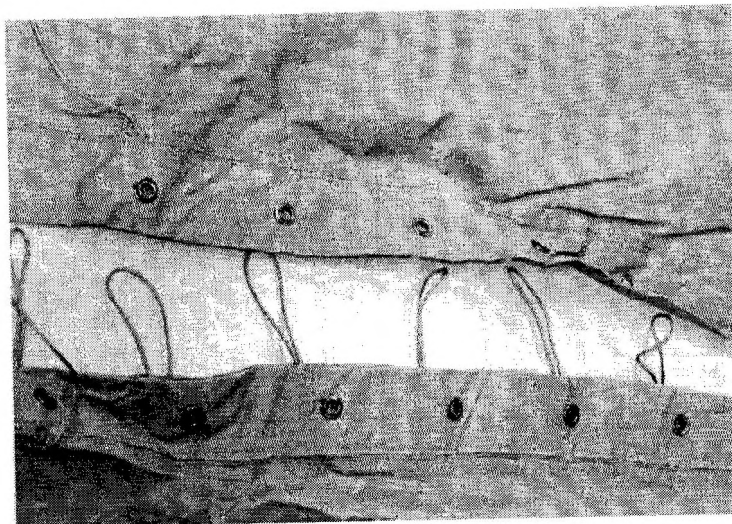
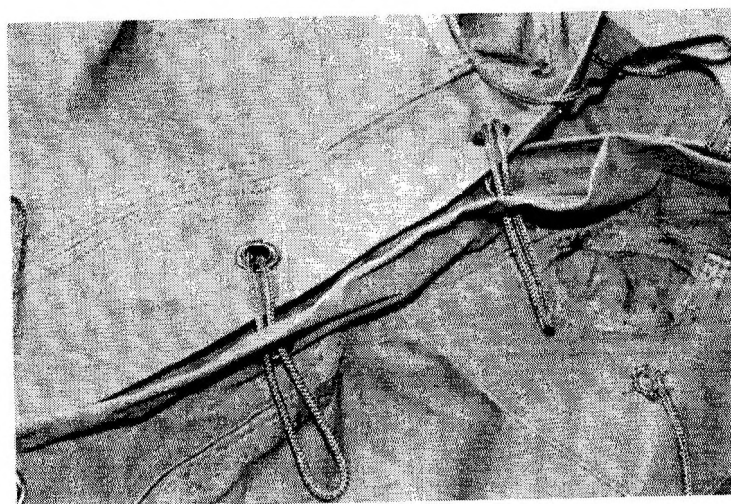
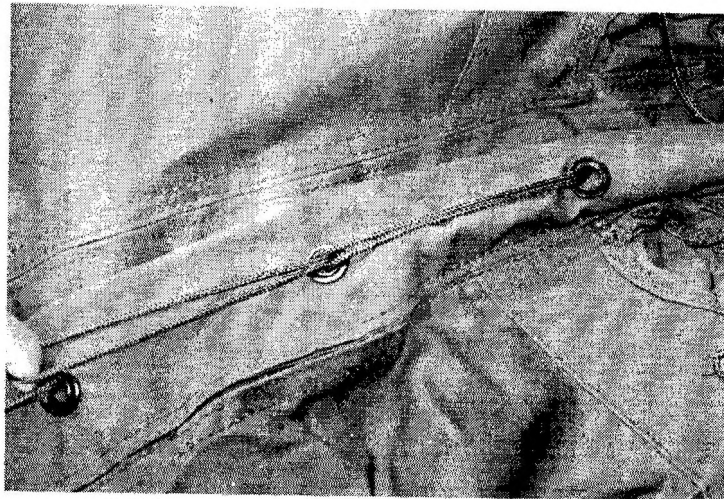
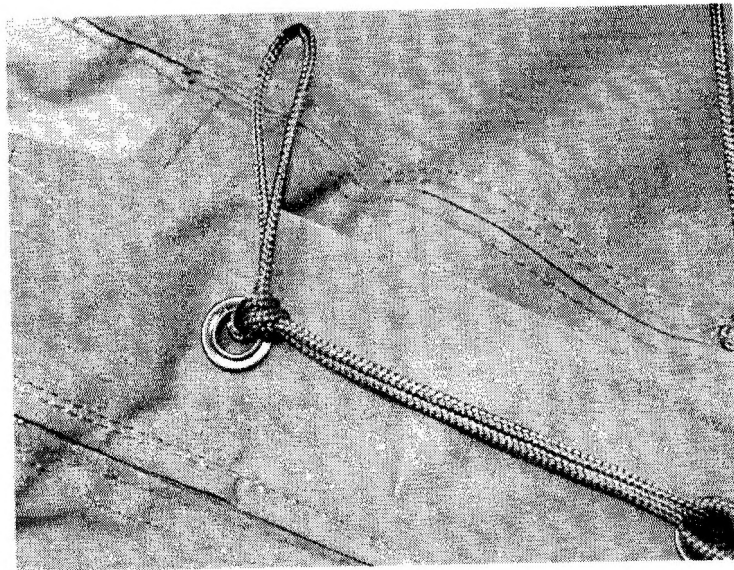

Figure 27: Lacing cover sections (1)
Figure 28: Lacing cover sections (2)
Figure 30: Lacing cover sections (4)
Figure 33: Lacing cover sections (7)
21. With the MK4 shelter system there are options for assembly. The tent can be erected using keder rails or the roof and wall sections can be pre-laced together as detailed in Fig 27 to 34. If the tent is being erected using a combination of MK 4 and earlier cotton canvas panels then you can utilise a combination of the two or just dutch lacing.
39. The dutch lacing is installed by aligning the eyelets as detailed in Fig 27. Then passing the loops through the eyelets Fig 28. The top loop is them looped over the next loop down Fig 30. Finally, the bottom loop is secured by a toggle or tie Fig 33.